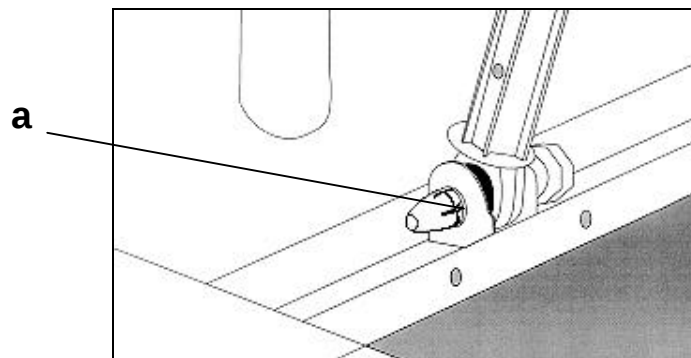

Figure : 21
- Damper pin at the tub is pulled off pressing on the snaps at the sharp end (figure 21/a)
- Damper pin at the body is pulled off (figure 21)